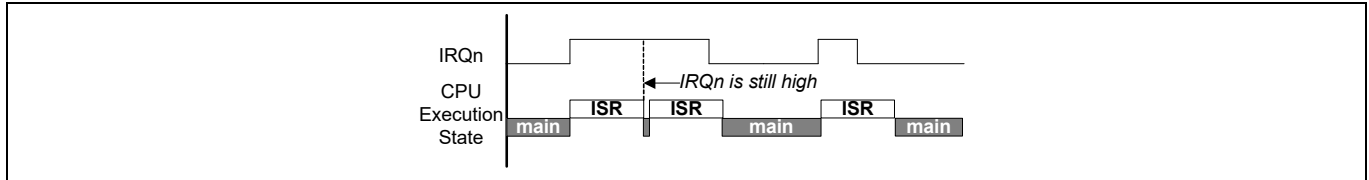
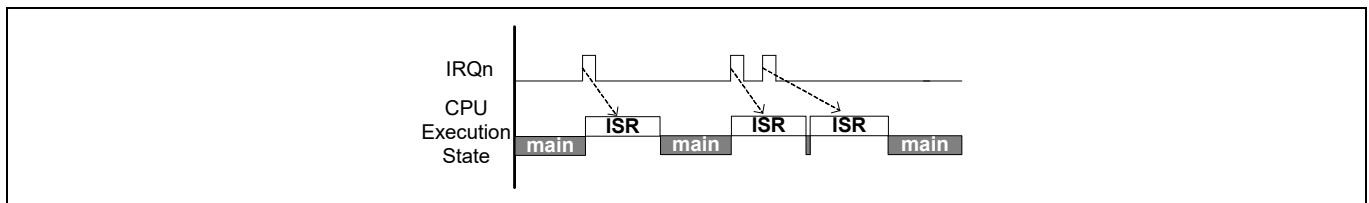

Figure 7-3. Level Interrupts
Figure 7-4. Pulse Interrupts
Figure 7-3 and Figure 7-4 show the working of level and pulse interrupts, respectively. Assuming the interrupt signal is initially inactive (logic low), the following sequence of events explains the handling of level and pulse interrupts:
3. When the ISR is being executed by the CPU, one or more rising edges of the interrupt signal are logged as a single pending request. The pending interrupt is serviced again after the current ISR execution is complete (see Figure 7-4 for pulse interrupts).
4. If the interrupt signal is still high after completing the ISR, it will be pending and the ISR is executed again. Figure 7-3 illustrates this for level triggered interrupts, where the ISR is executed as long as the interrupt signal is high.